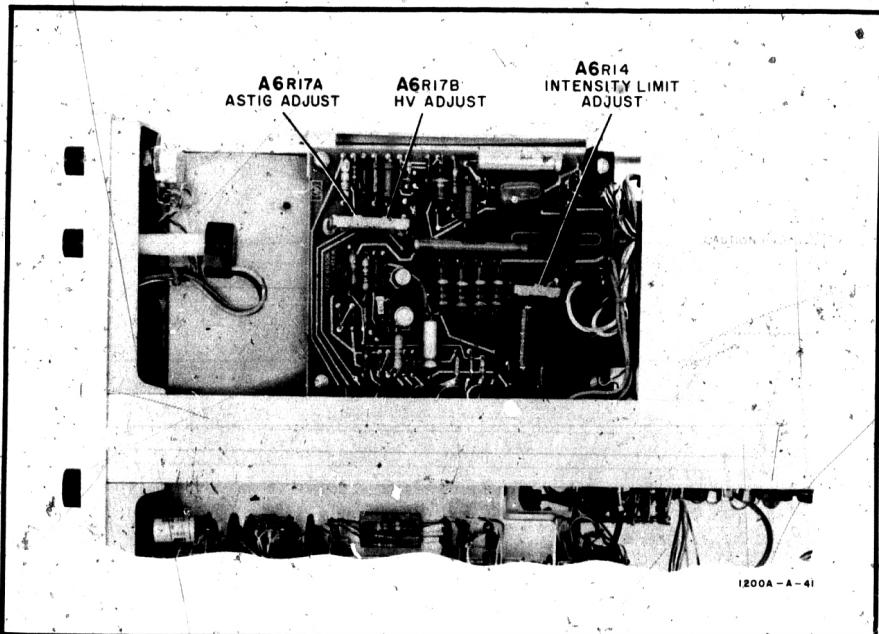

Figure 5-2. High Voltage Power Supply Adjustments
e. Adjust A6R17B (Figure 5-2) for same voltage calculated in step c ($-2,915V \pm 5V$ discounting probe attenuation).
c. Adjust A6R17A (Figure 5-2) for largest, roundest dot possible.
c. Adjust A6R14 (Figure 5-2) until dot just disappears.